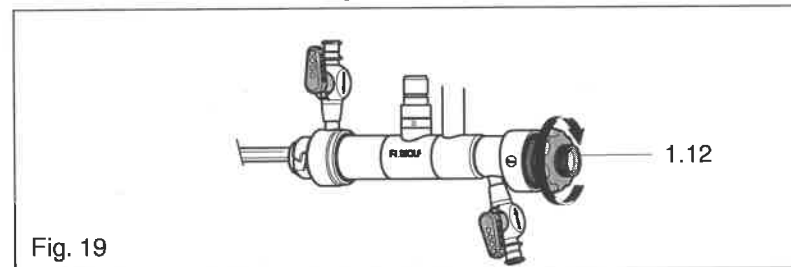

Fig. 19
- ◇ Screw on the sealing element (1.12) with the membrane valve (1.13) in place, then unscrew at least 1 turn. Tighten firmly before use. (Fig. 19)